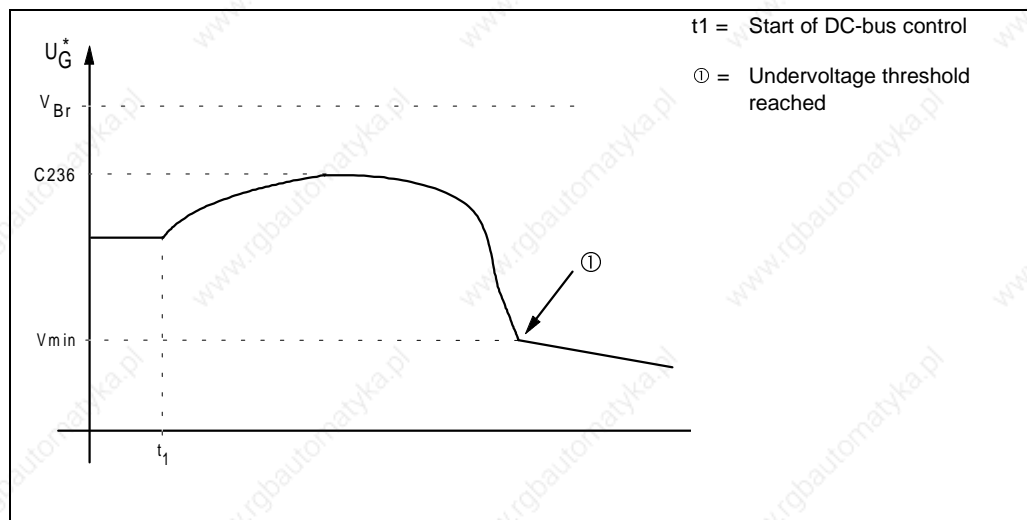

fig. 2: Real setting
5. Reduce C080 at maximum system speed until the DC-bus voltage does no longer overshoot the brake-chopper threshold (see fig. 2).